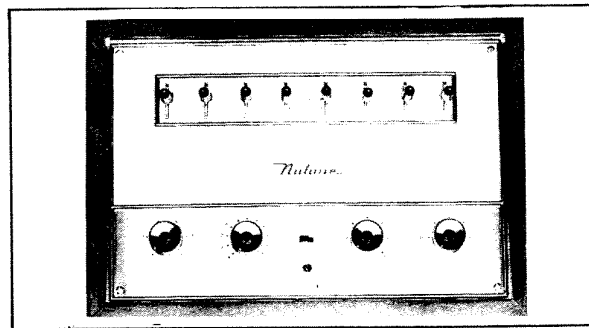

Fig. 8. Finished Cover and Panel Assembly.
2. Remove the four brass screws from the corners of the front panel. (See Fig. 8.)
Line up corner mounting holes with the holes in extension bracket and fasten in place with screws provided. (Fig. 8.) Then place knobs on switch arms and on control shafts.